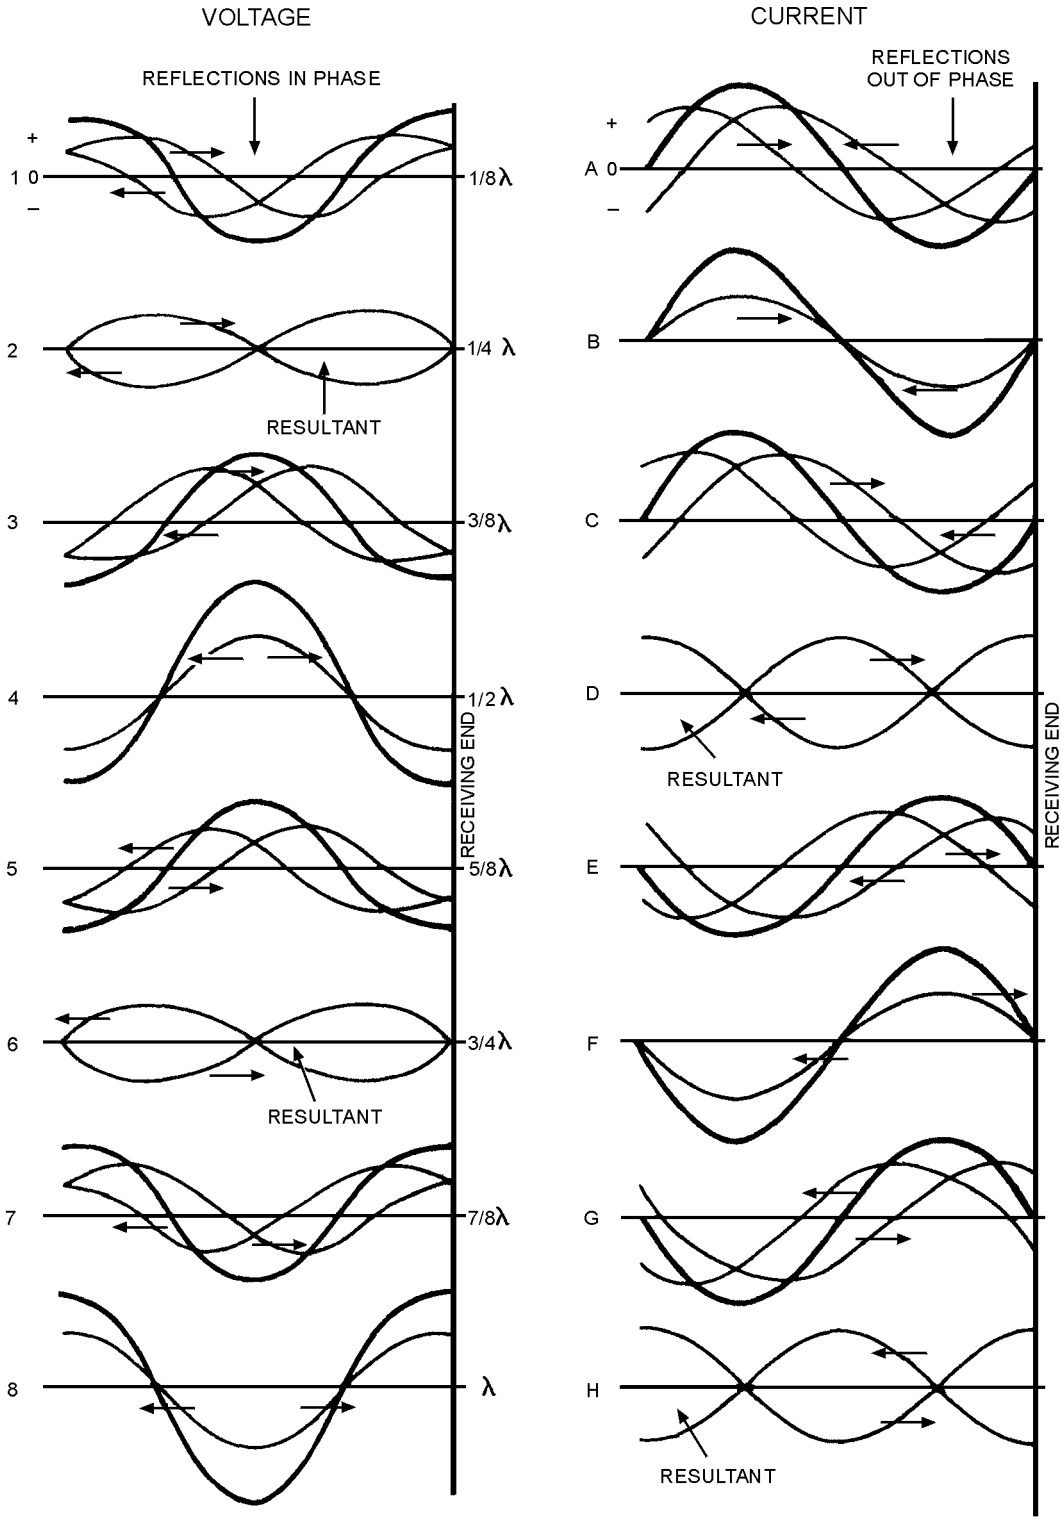
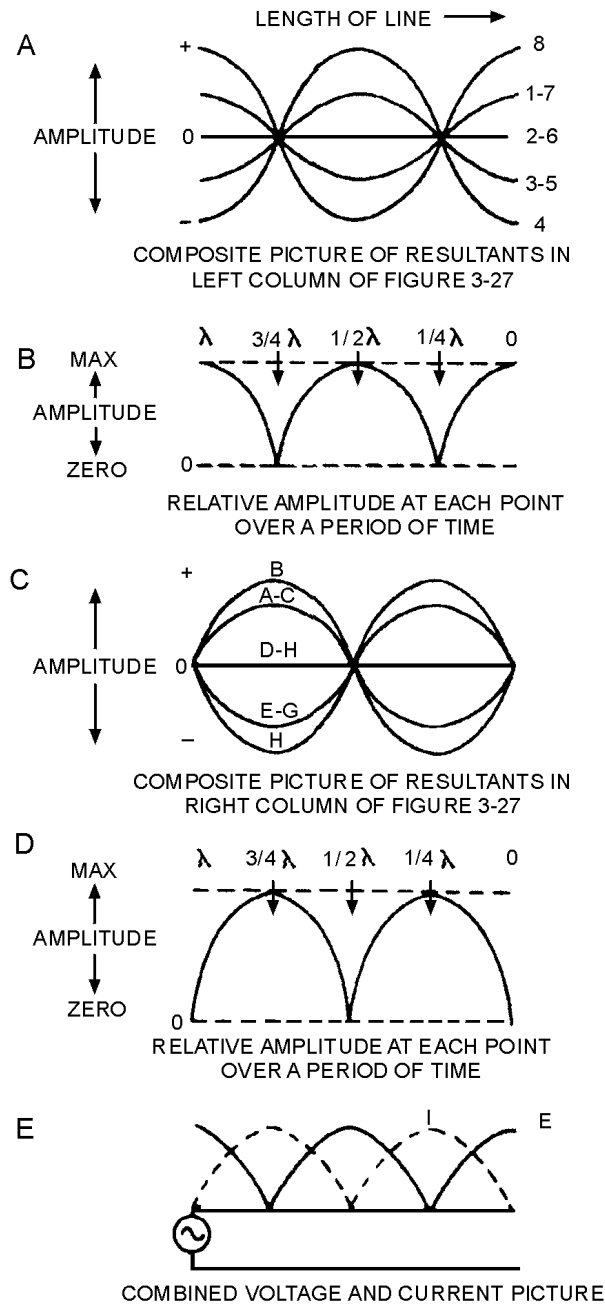
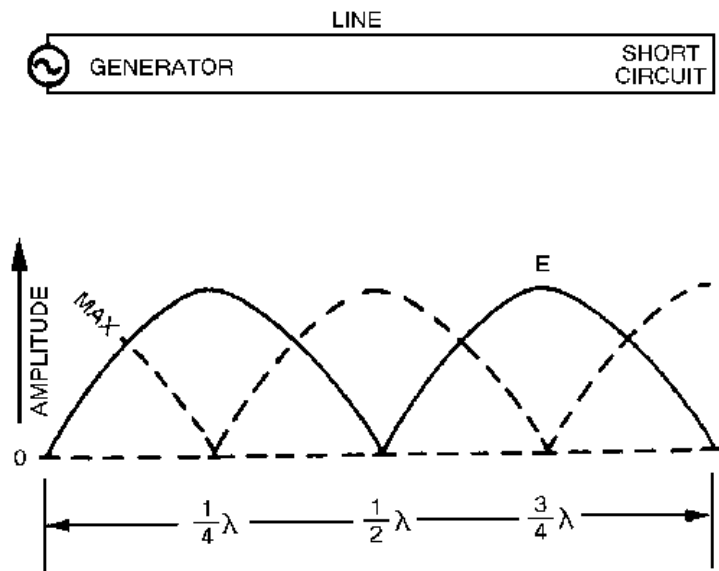

Figure 3-27.—Instantaneous values of incident and reflected waves on an open-ended line.
Figure 3-29.—Composite results of instantaneous waves.
Figure 3-30.—Standing waves on a shorted line.
Figure 3-27 shows the incident and reflected waveshapes at several different times. The diagrams in the left column of figure 3-27 (representing *voltage*) show the incident wave and its reflection without change in polarity. In figure 3-27, waveform (1), the incident wave and the reflected wave are added algebraically to produce the resultant wave indicated by the heavy line. In waveform (2), a zero point preceding the negative-going cycle of the incident wave is at the end of the line. The reflected wave and incident wave are 180 degrees out of phase at all points. (The reflected wave is the positive cycle that just preceded the negative cycle now approaching the end of the line.) The resultant of the incident and reflected waves is zero at all points along the line. In waveform (3), the waves have moved $1/8\lambda$ along the line; the incident wave has moved 45 degrees to the right, and the reflected wave has moved 45 degrees to the left. The resultant voltage, shown by the heavy line, has a maximum negative at the end of the line and a maximum positive $1/2\lambda$ from the end of the line.
Study each part of figure 3-27 carefully and you will get a clear picture of how the resultant waveforms of voltage are produced. You will also see that the resultant voltage wave on an open-ended line is always zero at $1/4\lambda$ and $3/4\lambda$ from the end of the transmission line. Since the zero and maximum points are always in the same place, the resultant of the incident and the reflected wave is called a **STANDING WAVE** of voltage.
The right-hand column in figure 3-27 shows the *current* waveshapes on the open-ended line. Since the current is reflected out of phase at an open end, the resultant waveshapes differ from those for voltage. The two out-of-phase components always cancel at the end of the transmission line, so the resultant is always zero at that point. If you check all the resultant waveshapes shown in the right-hand column of figure 3-27, you will see that a zero point always occurs at the end and at a point $1/2\lambda$ from the end. Maximum voltages occur $1/4\lambda$ and $3/4\lambda$ from the end.
When an rf line is terminated in a short circuit, reflection is complete, but the effect on voltage and current differs from that in an open-ended line. Voltage is reflected in opposite phase, while current is reflected in phase. Again refer to the series of pictures shown in figure 3-27. However, this time the left column represents *current*, since it shows reflection in phase; and the right column of pictures now represents the *voltage* changes on the shorted line, since it shows reflection out of phase.
The composite diagram in figure 3-29 shows all resultant curves on a full-wavelength section of line over a complete cycle. Notice that the amplitude of the voltage varies between zero and maximum in both directions at the center and at both ends as well but, one-fourth of the distance from each end the voltage is always zero. The resultant waveshape is referred to as a standing wave of voltage. Standing waves, then, are caused by reflections, which occur only when the line is not terminated in its characteristic impedance.
The voltage at the center and the ends varies at a sinusoidal rate between the limits shown. At the one-fourth the three-fourths points, the voltage is always zero. A continuous series of diagrams such as these is difficult to see with conventional test equipment, which reads the effective or average voltage over several cycles. The curve of amplitude over the length of line for several cycles is shown in figure 3-29, view B. A meter will read zero at the points shown and will show a maximum voltage at the center, no matter how many cycles pass.
Reflection is complete when an rf line is terminated in a short circuit, but the effect on voltage and current differs from the effect obtained in an open-ended line. Voltage is reflected in opposite phase, while current is reflected in phase. Again look at the series of diagrams in figure 3-27. The left column represents current, and the right column shows voltage changes on the shorted line. The standard representation of standing waves on a shorted line is shown in figure 3-30; the voltage is a solid line, and the current is a dashed line. The voltage is zero at the end and center ($1/2\lambda$) and maximum at the $1/4\lambda$ and $3/4\lambda$ points, while the current is maximum at the end and center and minimum at the $1/4\lambda$ and $3/4\lambda$ points.
As we discussed voltage and current waves on transmission lines, we pointed out several differences between open and shorted lines. Basic differences also appear in the standing-wave patterns for open and shorted lines. You can see these differences by comparing figure 3-29, view E, and figure 3-30. Notice that the current and voltage standing waves are shifted 90 degrees with respect to the termination. At the open end of a line, voltage is maximum (zero if there are no losses in the line). At a short circuit, current is maximum and voltage is minimum.
Q24. In figure 3-27, which waveforms on the left have a resultant wave of zero, and what is indicated by these waves?